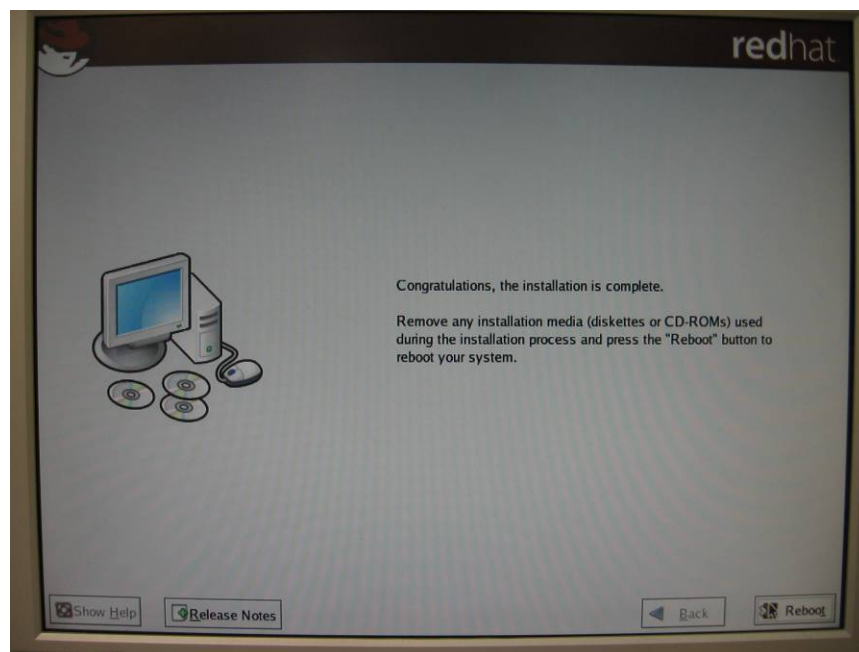

Figure 5-23 Installation Complete
12. Select **Save changes** and Exit.. (Figure 5-23)